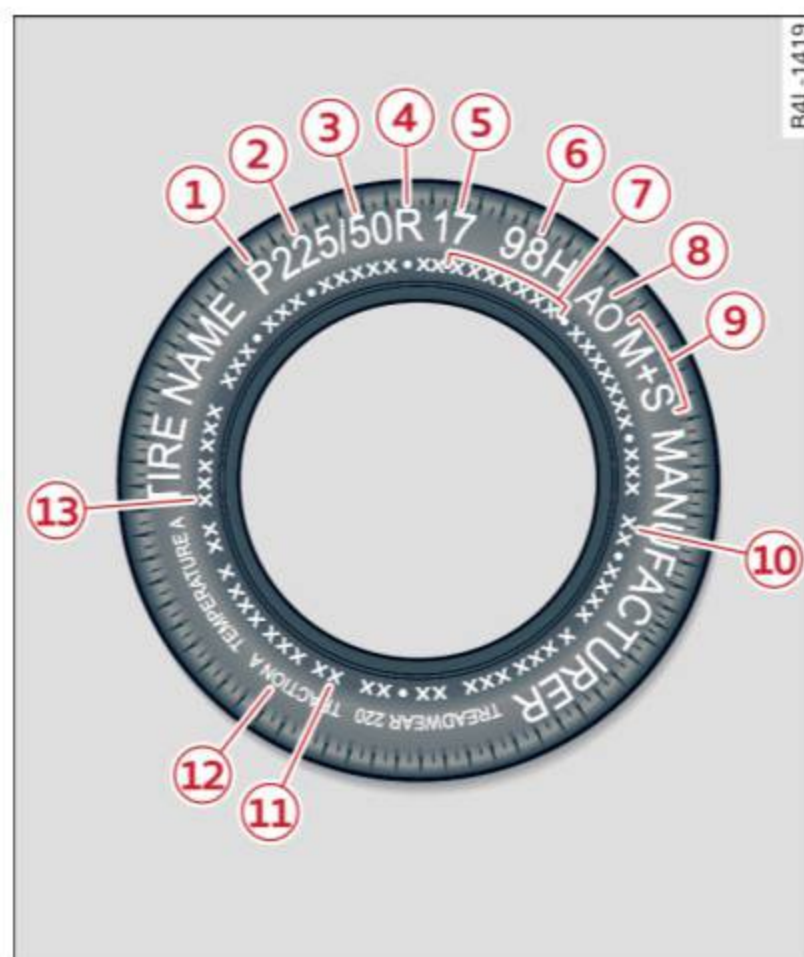

Fig. 180 Tire specification codes on the sidewall of a tire
- ▶ Check the tire sidewall (⇒ *page 242, fig. 180*) to determine the designated load rating for a specific tire.
Federal law requires tire manufacturers to place standardized information on the sidewall of all tires ⇒ *fig. 180*. This information identifies and describes the fundamental characteristics, the quality grade of the tire and also provides a tire identification number
Quality grades can be found where applicable on the tire side wall between tread shoulder and maximum section width ⇒ *page 242, fig. 180.*